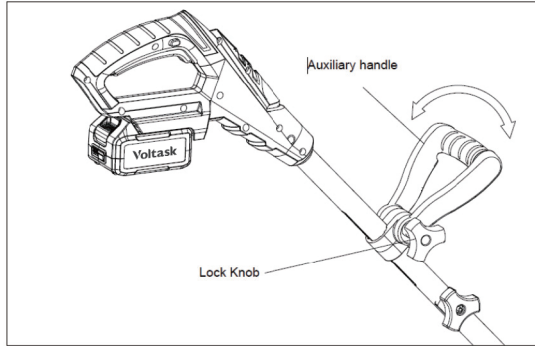

Fig. 10
2. Loosen the auxiliary handle by turning the handle knob counterclockwise. Rotate the auxiliary handle to a comfortable position. (Fig.10).